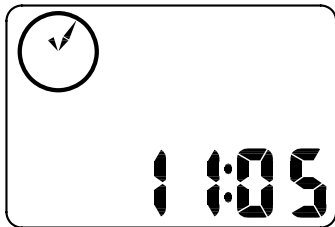

FIGURE 8: SHOW CLOCK SCREEN
**Note:** The minute hand of the analog clock has twelve segments and can only display time in five-minute increments. The hand will not jump to the next segment until the digital clock reaches whole five-minute intervals. (e.g., 12:05, 12:10, 12:15, etc.) (See figure 8)